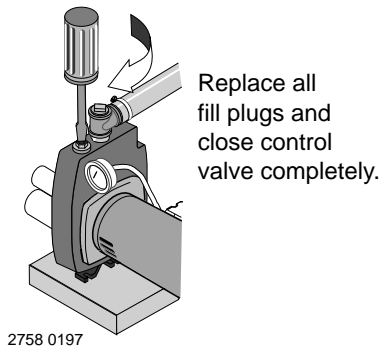

Figure 14: Prime Pump
- Step 2. Replace all fill plugs and close the control valve completely (Figure 14).